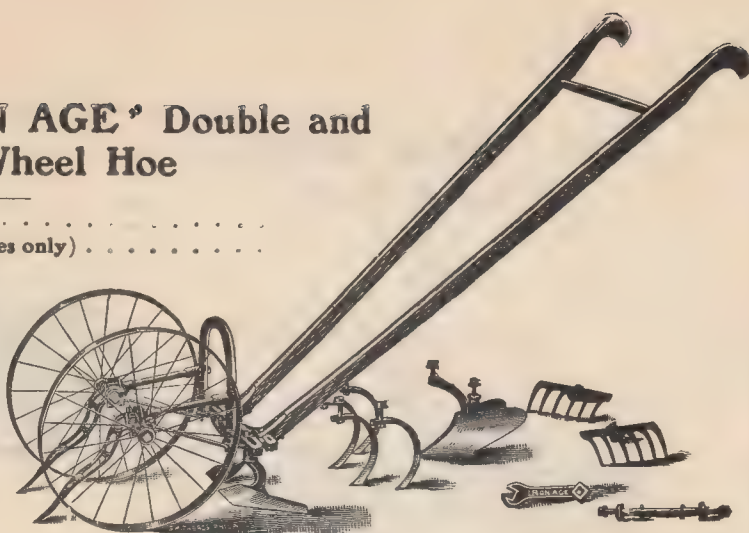
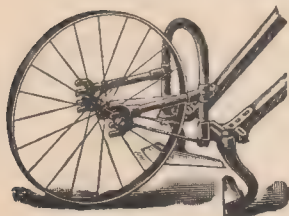

Fig. 75
Fig. 76
**The Frame** made of tubing, coupled to *malleable* castings; high arch, capable of working astride of 20-inch plants; three changes in height of wheels without entirely removing axle nuts; they not only can be placed inside the frame for working in narrow spaces, but an extra axle is sent out with each tool to be used, as shown in Fig. 76, making a *perfect Single Wheel Hoe*. We emphasize this point strongly, as a single wheel is certainly preferable in all garden work, with the single exception of working astride the row.
**The Side Hoes.**—Probably the greatest amount and variety of work is accomplished with the side hoes. For first hoeings of small plants these are placed as shown in Fig. 75 when working astride the row, and as shown in Fig. 76 when working between the rows. By reason of the remarkable steadiness of our wheel hoes the side hoes may be set to cut very close to the plants without endangering them. When the side hoes are set as shown in Fig. 76, the hoes will overlap as one is slightly in advance of the other, and weeding can be done in very narrow rows.